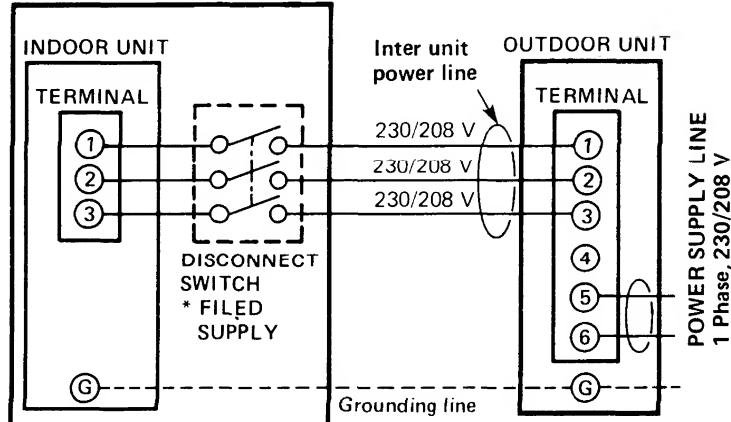

Fig. 19
- Connect interunit power line and power supply line per drawing on inside of the panel "C". Fig. 19